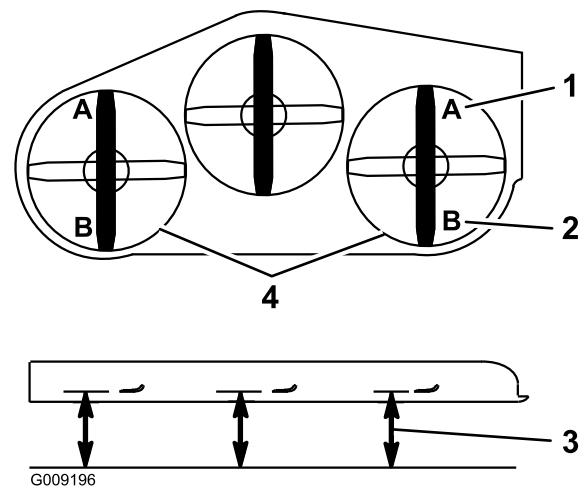

Figure 70
9. On both sides of the deck, measure from the level surface to the front tip of the blade (Position A). The measurement should read 3 inches (7.6 mm) (Figure 70).
15. On both sides of the deck, measure from the level surface to the back tip of the blade (Position B). The measurement should read 3 1/4 inches (8.3 cm) (Figure 70).